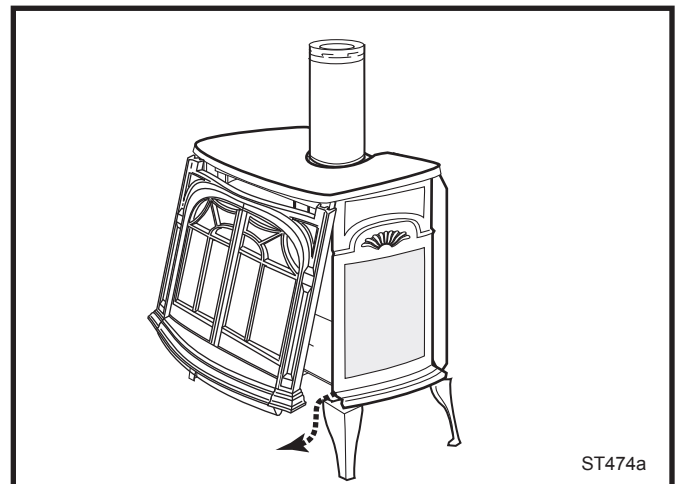

Fig. 75 Remove the stove front.
2. Lift the Stove Front up and then swing the bottom out to disengage it from the heater shell. (Fig. 75)
Replace glass only with CFM Corporation approved parts. Refer to Page 44 for Replacement Parts. Refer to Figures 75 & 76 for removal of the damaged glass frame.